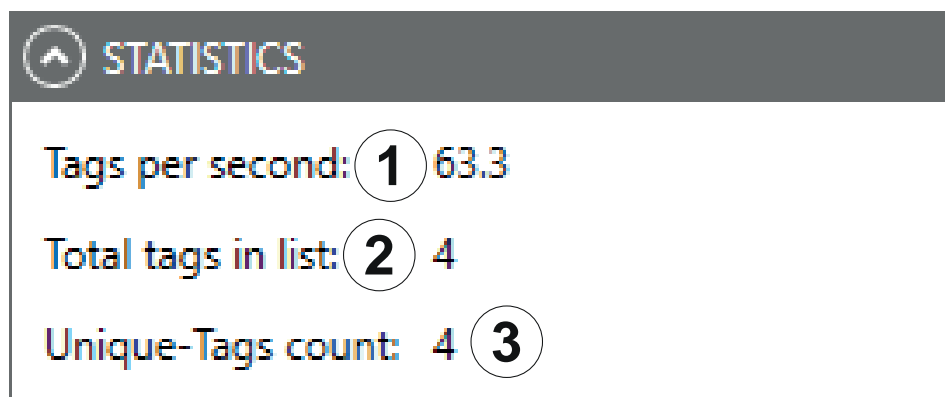

Fig. 54: Basic reading: statistics
Having selected the *ARU-CSB-ELC* (⑥ in Fig. 54, p. 100) under *Options*, the lower part of the screen shows the spatial allocation of a transponder: